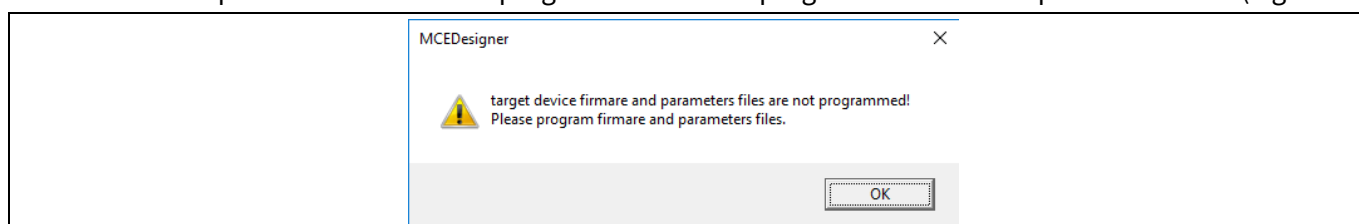

Figure 23 MCEDesigner warning message
8. If the firmware has been erased from the module, a warning message will pop up saying “Target device firmware and parameters file are not programmed! Please program firmware and parameters file” (Figure 23)